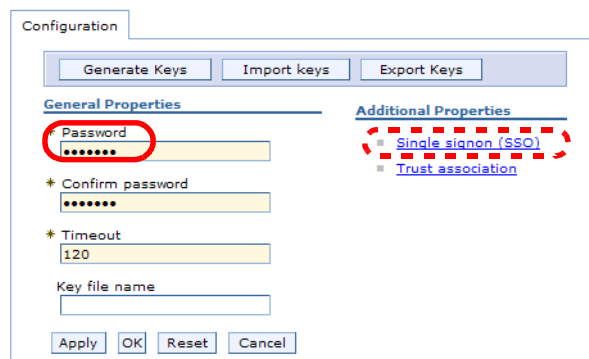

Figure 11-15 Authentication using LTPA
- Enter the password `wid` twice and click *Apply* (Figure 11-15).